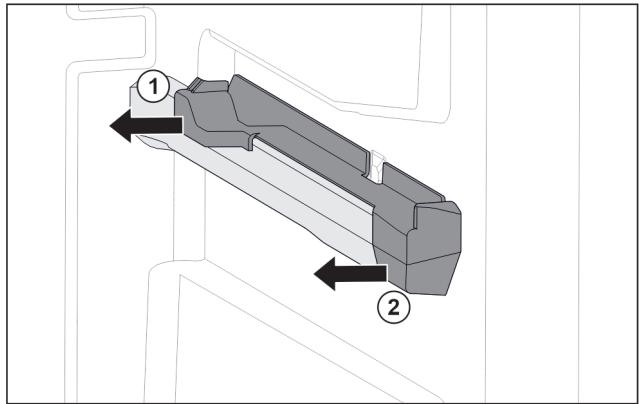

Fig. 124 Attachment on the right moulded rib
- ▶ Pull off attachment at the back sideways. Fig. 124 (1)
- ▶ Pull off attachment at the front sideways. Fig. 124 (2)